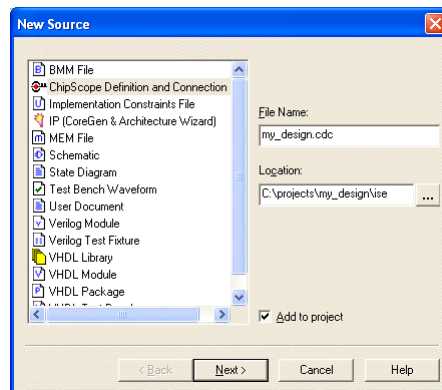

Figure 3-1: Creating a New .cdc Source File
- a. To create a new .cdc file, select **Project** → **New Source**, then select **ChipScope Definition and Connection File** and give the file a name (Figure 3-1, page 3-2). Click through the remaining dialog boxes using the default settings, as needed.